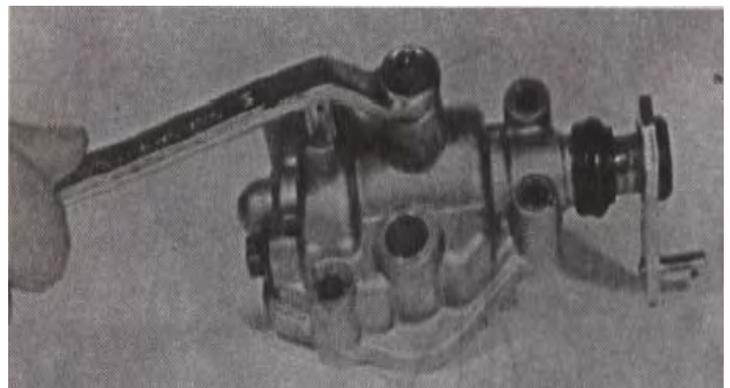

Fig 10-106
- (4) Remove reverse check screw, coil spring and reverse check ball from case. (FIG.10-106)